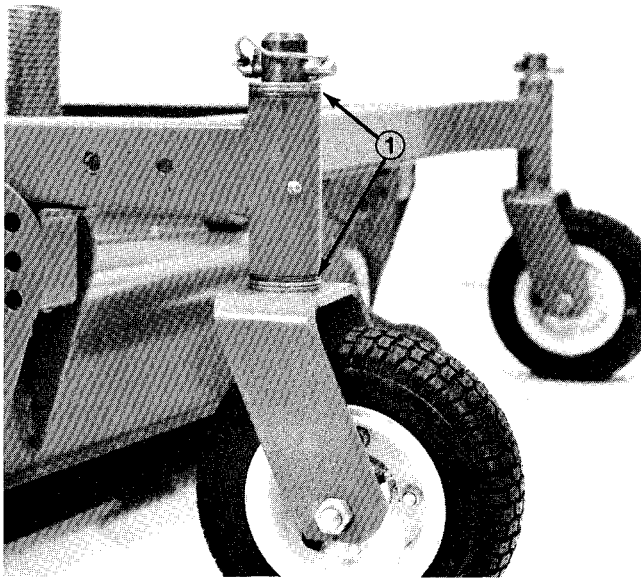

Figure 21
4. Insert pin punch into top or bottom of mounting tube and drive bushing out of tube (Fig. 21). Also drive other bushing out of tube. Clean inside of tubes to remove dirt.